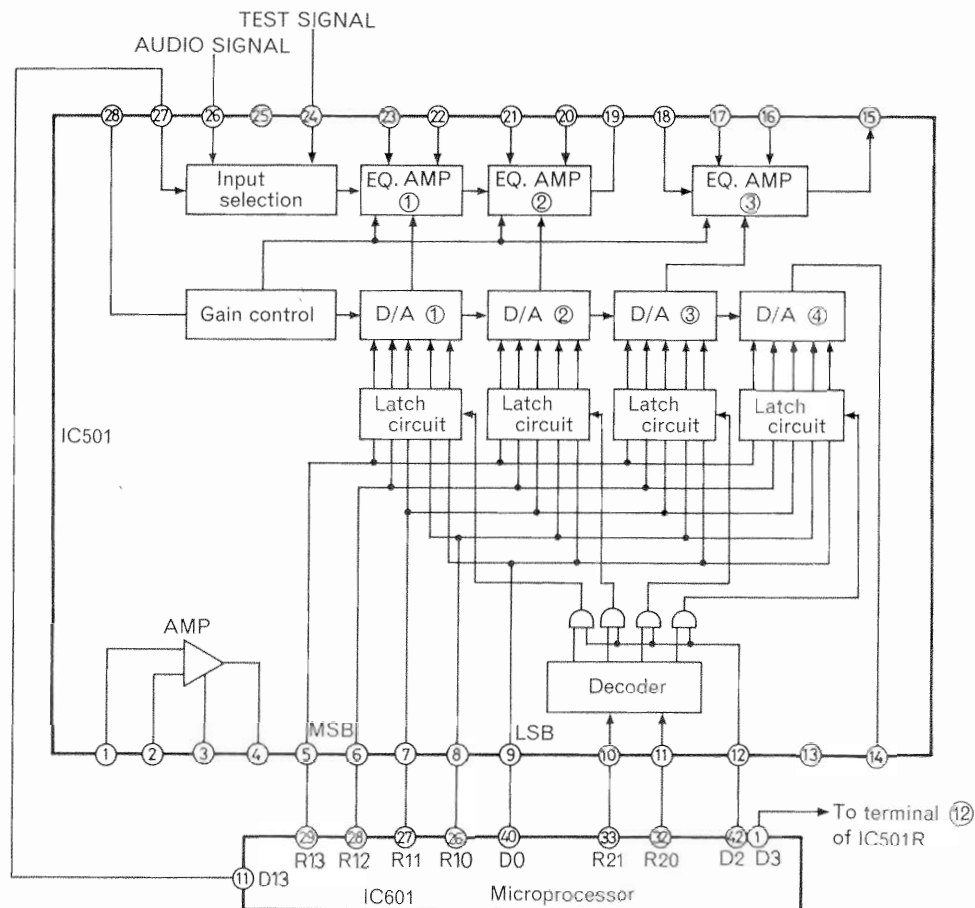

Fig. 9
A single IC is used for the discrete low/medium/high frequency EQ circuits, latch circuits, MPX circuits, the D/A converters for REC bias control/PLAY gain detection and Amp. for playback output amplification used in the D-5500. Fig. 9 shows the internal structure of the IC. The output signal of the test oscillation circuit is input to terminal ②④, and audio signal of line-in, mic, etc. to terminal ②⑥.
Terminal ②⑧ of IC501 shown in Figs. 9 & 10 sets the output level change during single step variation of overall variation amount (32 steps) of the control data. To reduce selection noise generated when data is changed due to changing the tape selector, etc., Q602 is cut off by the selection noise preventive control output (Terminal ③) of the microprocessor to minimize the voltage drop at both ends of R902 and the output level change in a single step until the tape position control data is transferred. After the data transfer is complete, the voltage is gradually increased to the set voltage for a single step variation by means of the charging time constant of C606.